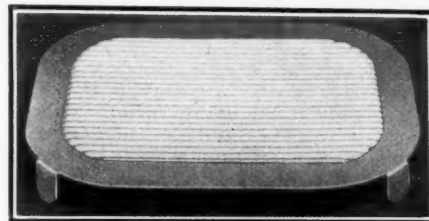

Fig. 4—Ford aluminum heel plate
**Ford Aluminum Heel Plate**—An interesting accessory for Ford cars to prevent the wearing of the rubber matting directly under the operator's feet is made by the Metallic Automobile Matting Co., Rochester, N. Y. The heel plate, Fig. 4, is attached by cutting four slits in the matting to correspond with the metal projections on the four corners of the plate and then slipping these projections through the slits and bending them over.